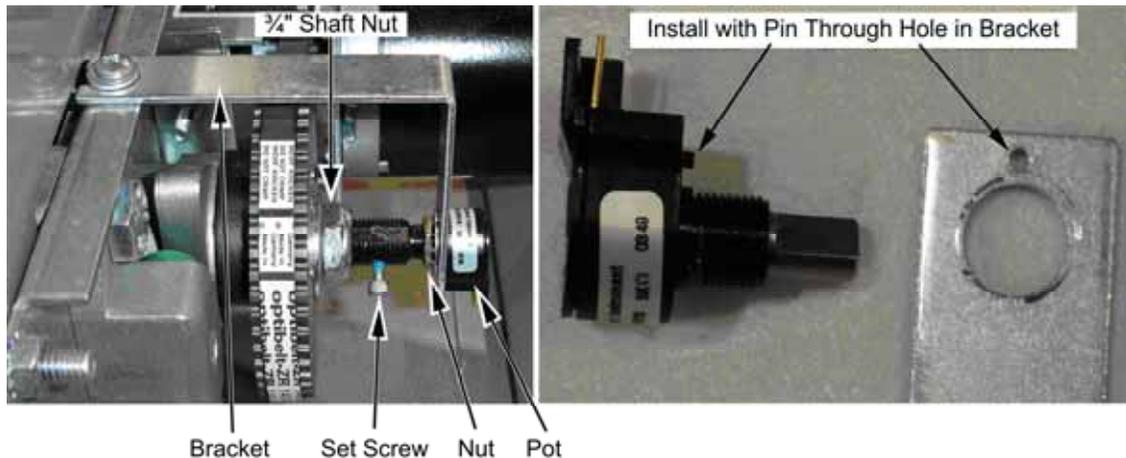
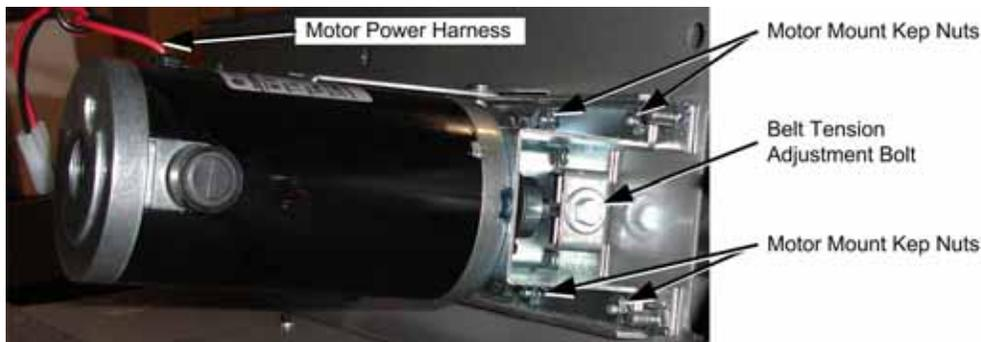

Figure 20. Replacing the 5 K Ω Steering Pot
Figure 21. Servicing the Steering Motor
To replace a pot, refer to Figure 20 and perform the following steps:
4. Reverse these steps to install the new pot. Install the pot with the plastic pin through the small hole in the bracket, as shown in Figure 20 below. Use Loctite to ensure the set screw is secure.
Refer to Figure 20 above, and Figure 21, and perform the following steps to remove the force-feedback belt for repair. Always replace the belt if it looks cracked or worn.
2. Using a 7/64 Allan wrench, loosen the set screw from the steering column and remove the bracket with the pot attached (see Figure 20).
3. Loosen the four (4) 3/8" motor mount Kep nuts that secure the steering motor to the frame (see Figure 21).
4. Using a 10mm socket wrench, loosen the belt tension adjustment bolt several turns until you can slip the belt off of the motor and steering gears (see Figure 21).
6. To replace the motor, remove the four (4) 3/8" Kep nuts that you loosened in step 2, and remove the motor.
1. Tighten the tension adjustment bolt on the motor assembly, shown in Figure 21, until the belt is fully stretched, and then loosen the bolt by ½ turn.